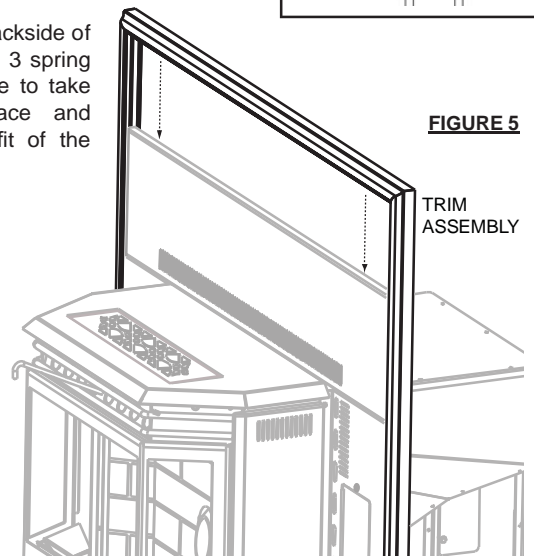

FIGURE 5
- Slide the assembled trim down over the flashing. (FIGURE 5)